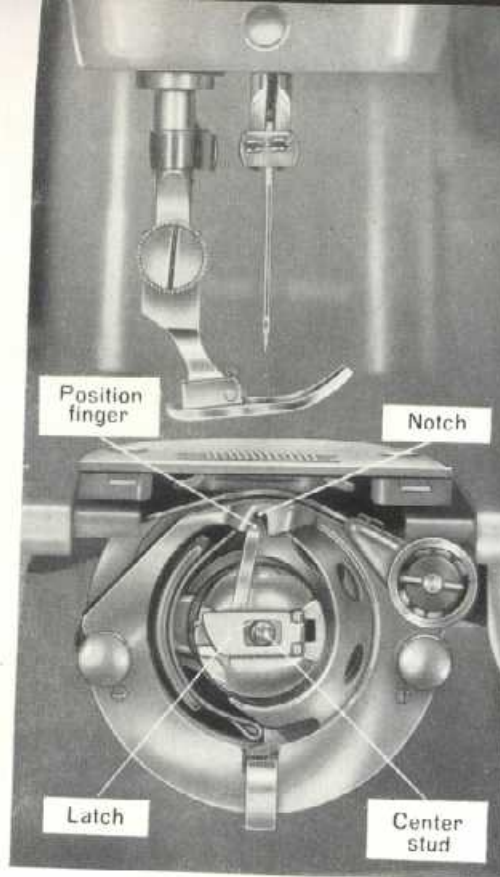

Fig. 25
- With thumb and forefinger of left hand, take bobbin case (into which full bobbin has been inserted) by the latch and place it on the center stud of the shuttle (hook). The position finger of the bobbin case must go into the notch on top of the race plate, as shown in Fig. 25.